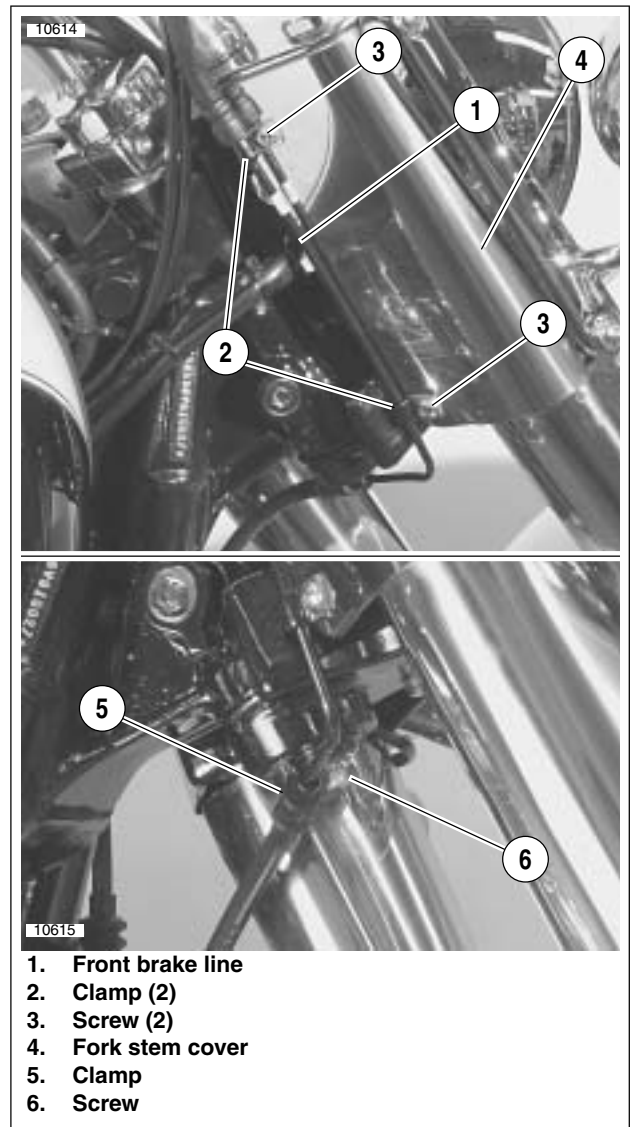

Figure 1-7. Attaching Front Brake Line–FLSTN
8. See Figure 1-7. Install front brake line (1) in clamps (2), inboard of screws (3) and attach to fork stem cover (4). Tighten screws to 30-50 **in-lbs** (3.4-5.7 Nm).
9. Install brake line in clamp (5) in underside of lower fork clamp. Tighten screw (6) to 96-120 **in-lbs** (10.9-13.6 Nm).